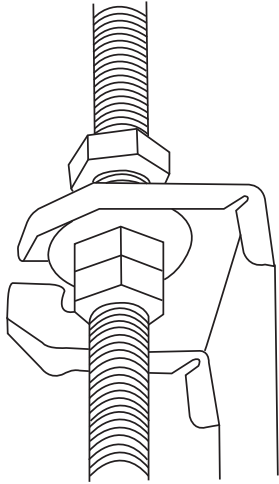

Fig. 4.8
8. Mount the indoor unit, with at least two people to lift and secure it. Insert suspension bolts into the unit's hanging holes. Fasten them using the washers and nuts provided. (See Fig. 4.8).